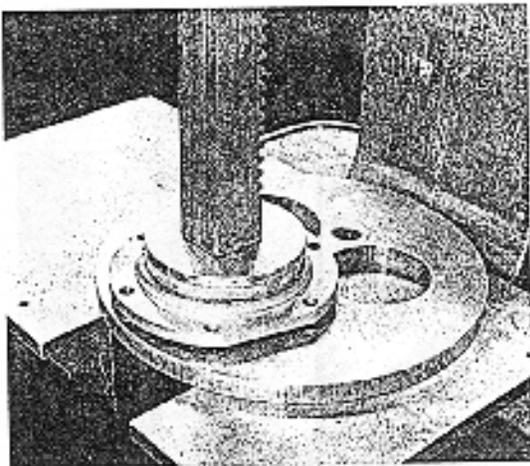

Figure 46. Pressing New Oil Seal in Bearing Cap Retainer.
2. Press in new oil seal in bearing cap retainer (see fig.46) and install bearing cap retainer in cover. Secure with cap screws and lock washers. Torque to 62 lbs-ft.